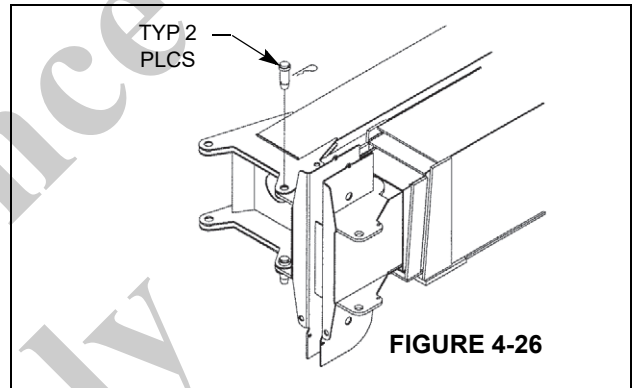

FIGURE 4-26
4. Using an overhead hoist, lift the jib assembly and align and pin the jib to the boom sheave head, Figure 4-26.